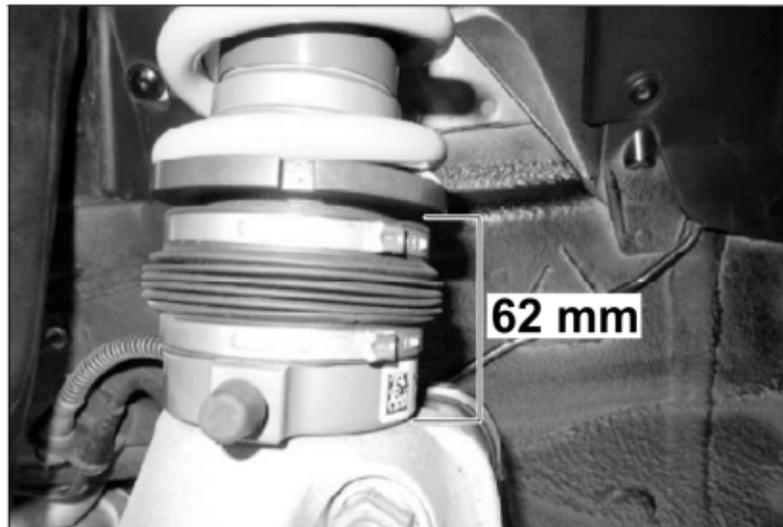

Figure 13
11. – Roughly set the wheel heights for wheel alignment. On the front axle, the height from the upper edge of the wheel carrier to the lower edge of the lower spring plate is set at 62 mm (2.44 in) ⇒ Figure 13. **If the chassis variant is installed without a lift system, this measurement is 55 mm (2.17 in).** Finally, reconnect the lift system and screw the retaining bracket on tight.